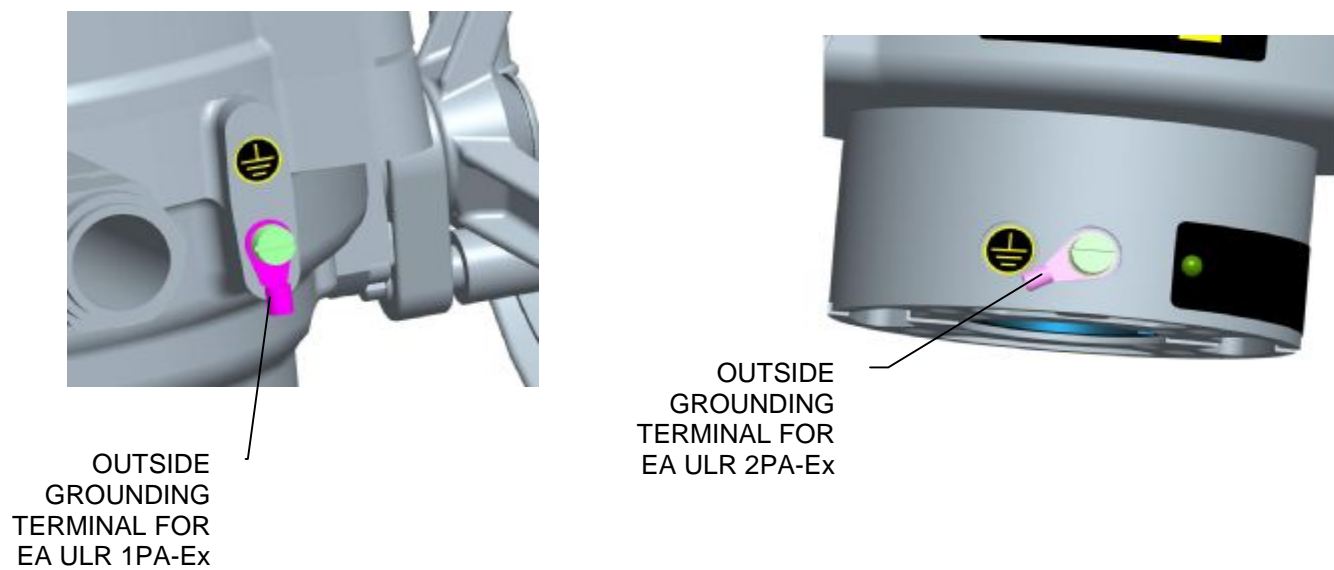
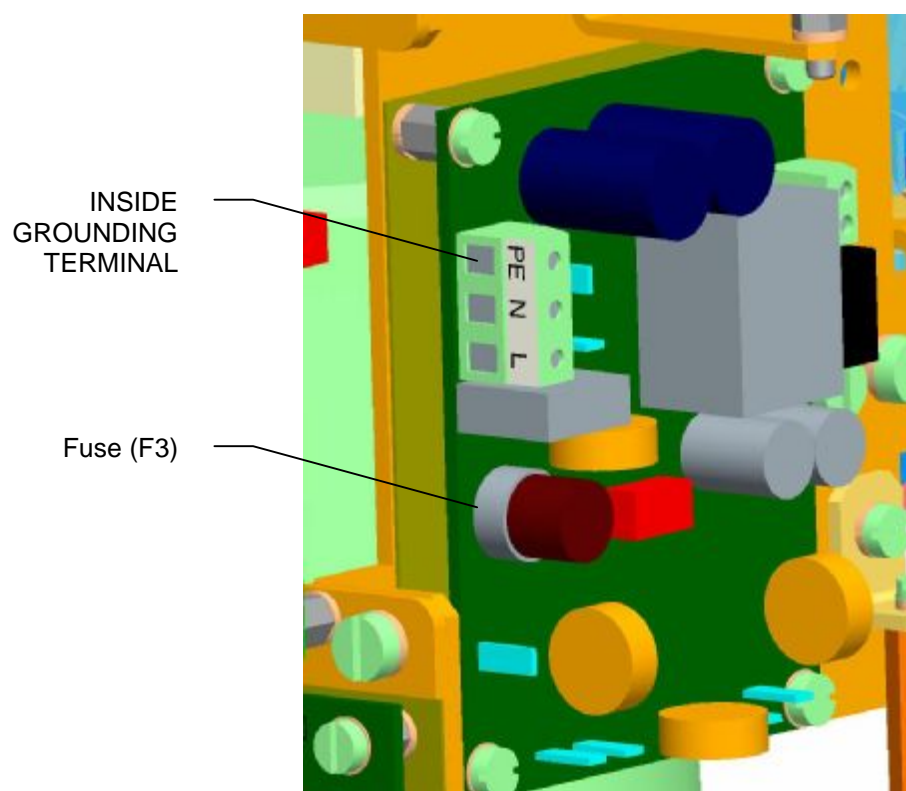

Fig.1c
Fig.1d
- for safe use of the actuator it is necessary to connect the outside and **inside grounding terminal**. The position of the outside and inside grounding terminal can be seen in Fig. 1c and Fig. 1d. HP3 insulated eyelet crimping pliers should be used to crimp wire to the outside grounding terminal (fy CEMBRE).
Actuator power supply board is installed with power supply fuse (F3). Location of the fuse on the power supply board can be seen in Fig.1d.